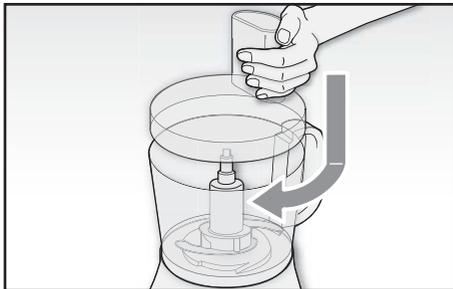
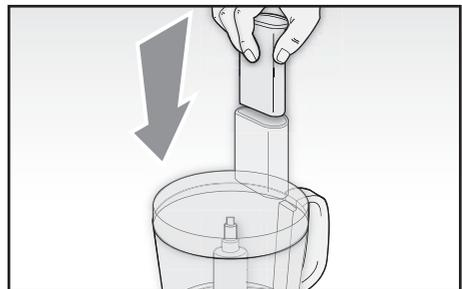

Fig. 9
Fig. 10
- 1 Put the ingredients in the bowl (P). If possible, cut solid foods into small pieces (1.5 x 1.5 cm). Do not put food over the maximum level indicated on the bowl.
- 2 Insert the lid (O) over the bowl (P) aligning the notch on the lid with the symbol (☐). Lock the cover (O) turning it clockwise until it snaps (☐) (Fig 9).
- 4 Turn the speed control knob (A) to put the appliance into operation. It is possible to select three operation modes: minimum speed ("1"), maximum speed ("2") and pulsed ("P"). For the best operation of the pulse mode, keep the knob turned for maximum 2/3 second each time.
- 5 To add ingredients during operation, use the hole on the lid (O). Push foods inserted with the aid of the presser (G) (Fig 10).
- 5 Insert the ingredients through the hole on the lid (O). Push foods inserted with the aid of the presser (G) (Fig 10).